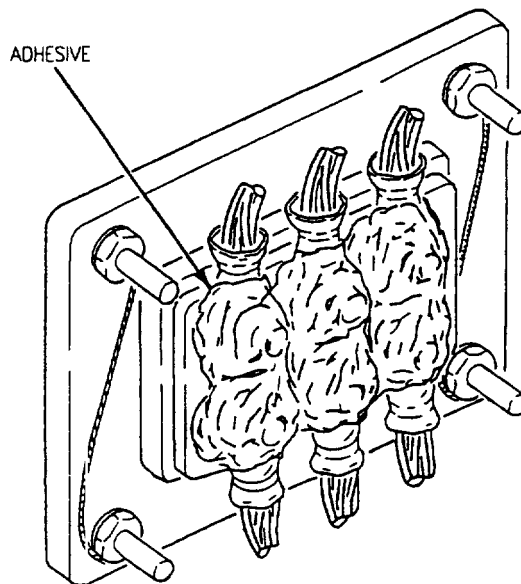

Figure 7. Sealing Electrical Components
d. Inject Thixoflex-FR onto the component area immediately (Figure 7). Ensure that there is a uniform layer over the component to be sealed with a minimum continuous thickness of 1/16".